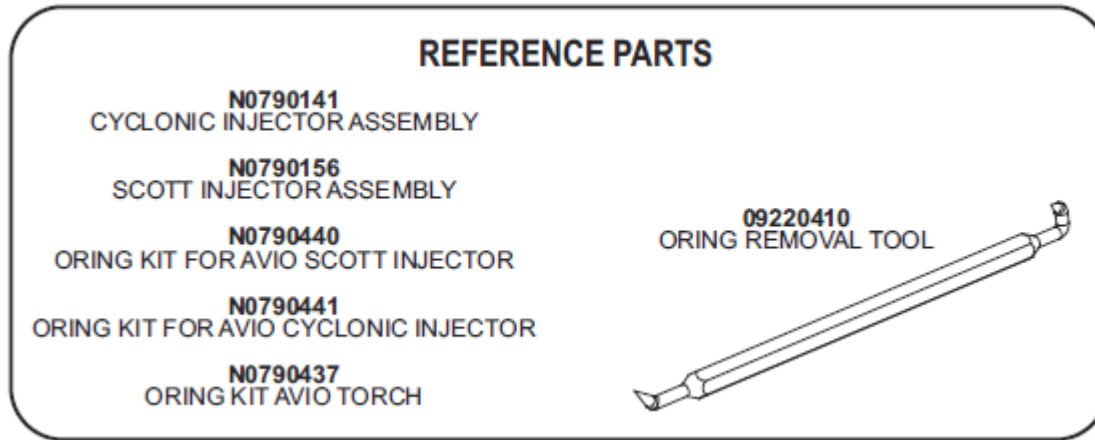
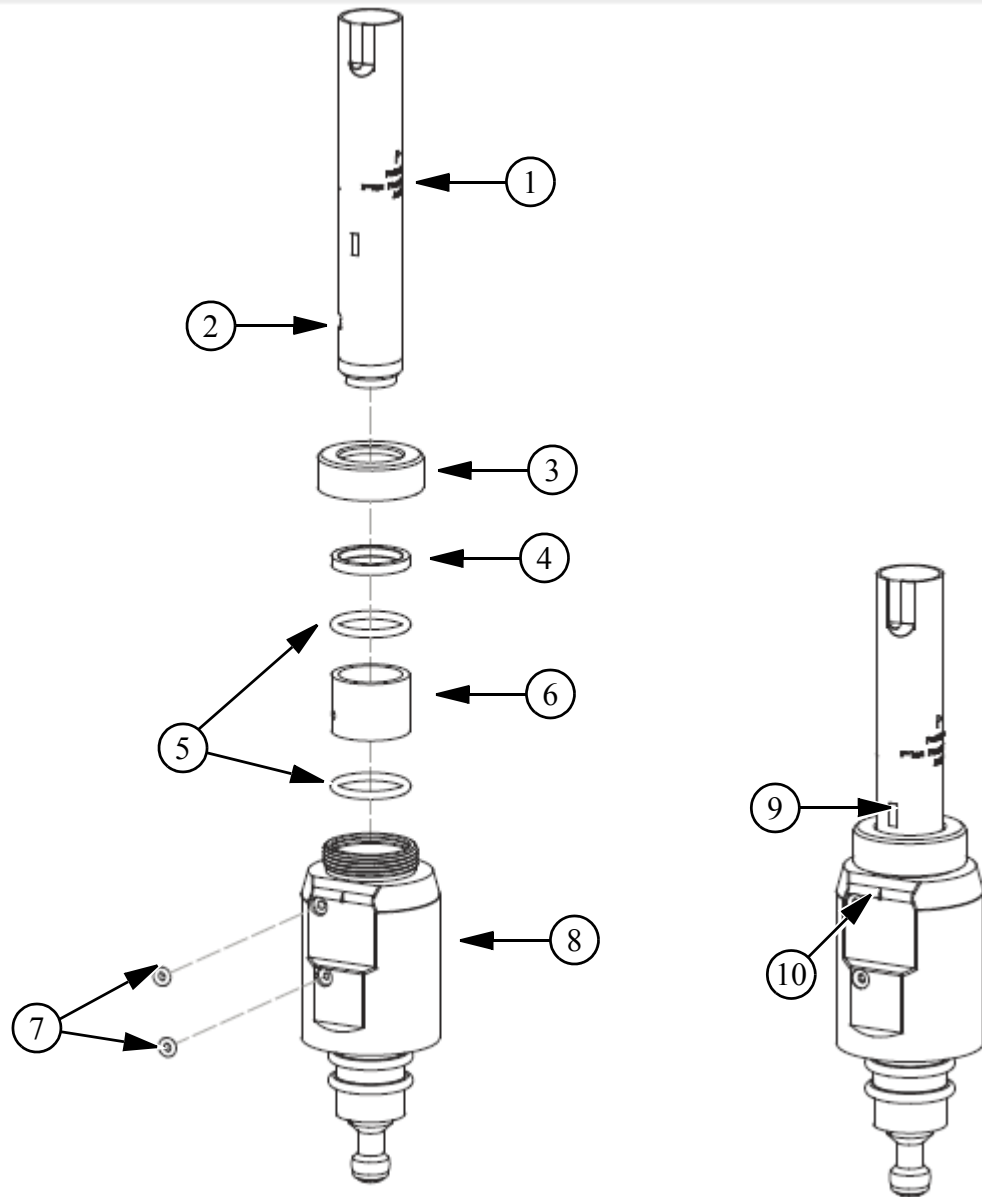

Figure 5-7 Torch Assembly.
Figure 5-8 Replacing the Torch
11. If the O-rings need to be removed, use your gloved finger to remove them using the O-ring removal tool (Part No. 09220410). **Do not** use a knife blade because the blade will cut the O-rings and damage the O-ring seats. Replace with new O-rings. See Figure 5-8 for a view of the location and part numbers of the O-rings.
Note: *The dark blue torch O-ring (Part No. N0791334) on the outside of the torch and the dark blue O-ring on the outside of the injector adapter (Part No. N0791333) should be replaced after 300 insertions. Use the O-ring removal tool (Part No. 09220410) to remove. See Figure 5-7 and Figure 5-8.*